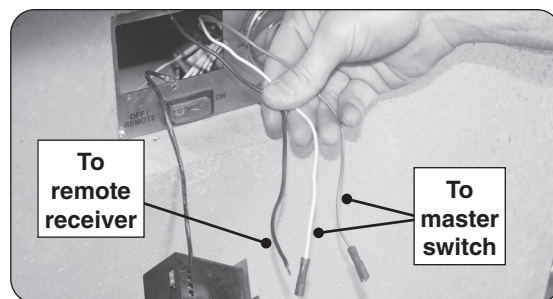
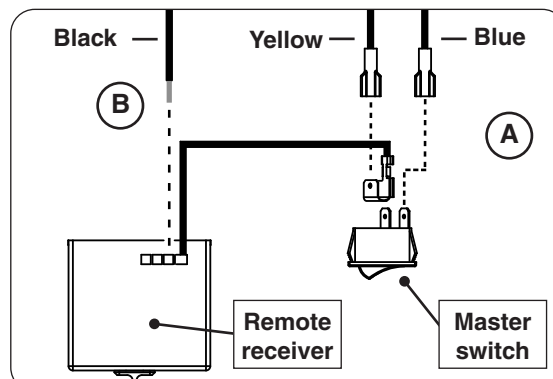

Fig. 34-1 Locate 3 exposed wires
Fig. 34-2 Reconnect receiver & switch wires
1. Locate the 3 exposed wires and connect to the remote receiver and master switch (see Fig. 34-1 and Fig. 34-2).